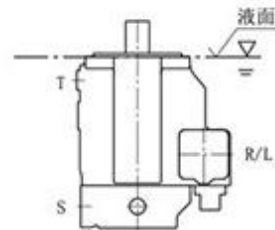

图1
a) 当油箱的最低液面与泵的法兰面等高或更高时，《R/L》口、《T》口和《S》口可开放（见图1）。
When the minimum level in the tank is as same as or larger than the height of the flange face of the pump, port R/L, T and S can be open (see Figure 1)